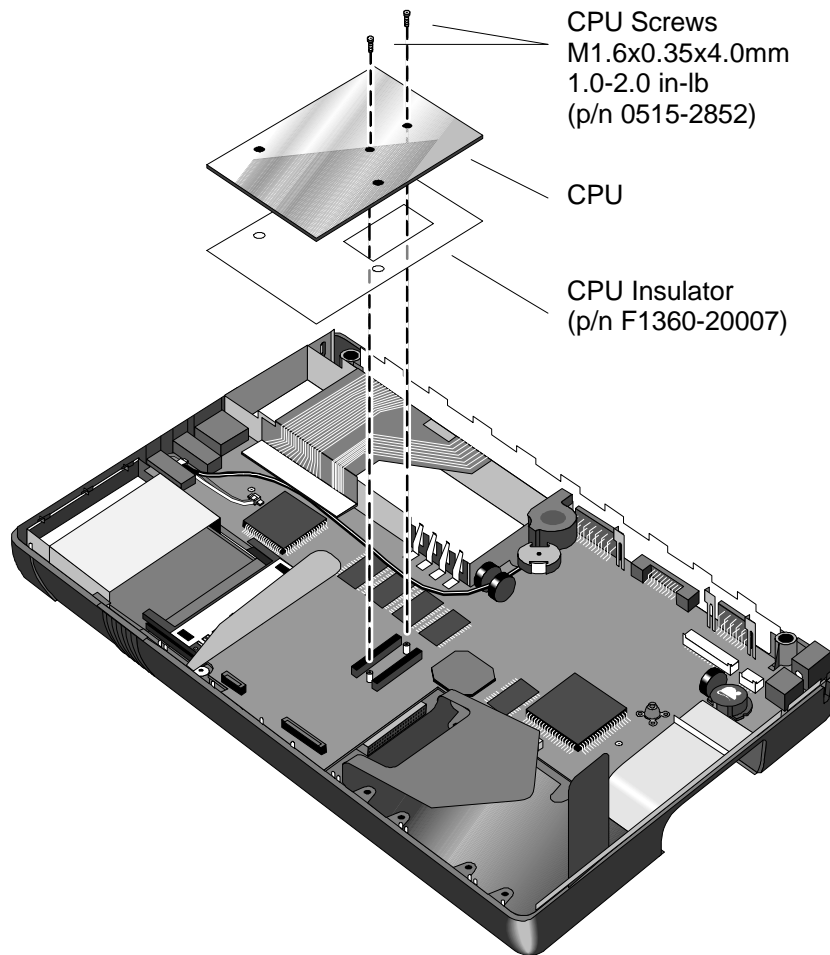

Figure 37 - Removing the CPU
2. Remove the two CPU screws (see Figure 37).